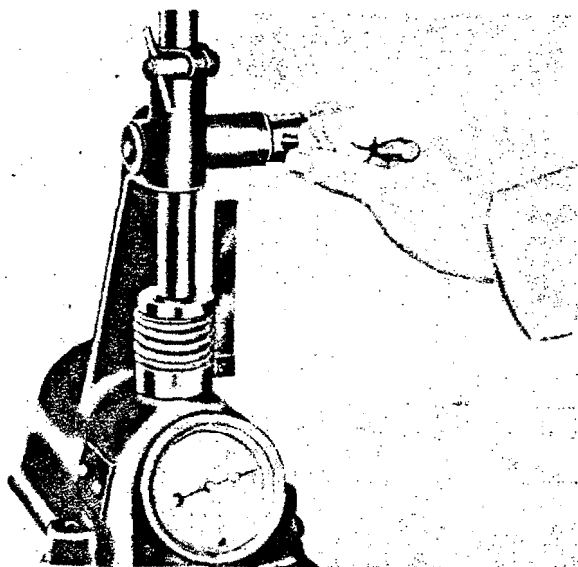

Figure 7-74. Spring Pressure
**7-85. VALVE SPRINGS.** Inspect for cracks, broken ends, inadequate spring pressure [Figure 7-74], rust and improper length.